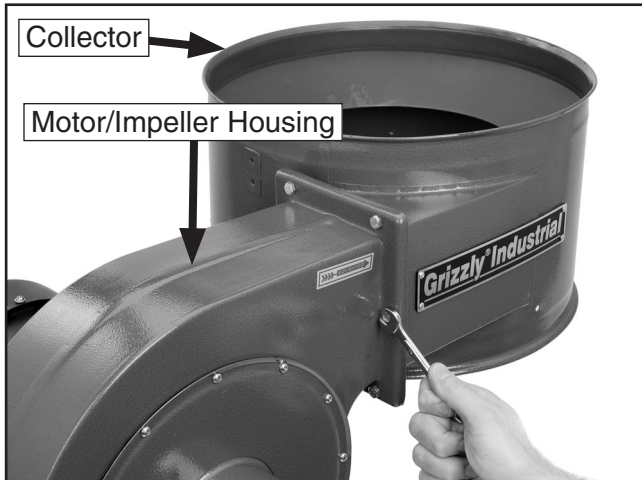

Figure 8. Installing collector onto motor/impeller housing.
6. Install the collector onto the motor/impeller housing with six M6-1 x 15 hex bolts, as shown in **Figure 8**.